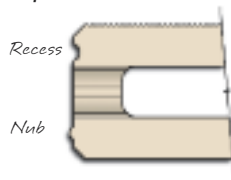

Figure 2: Post Block Template with Pile Steel Placement
The pile layout jig (Figure 1) is used after the piles are poured, but not quite hardened to set the location of the post blocks on the piles and ensure the exact relative spacing between each AB Fence post. This will also indicate precisely where the rebar needs to be placed in the piles (Figure 2). The optional rebar alignment plate can be used for increased accuracy of bar placement, see Figure 3.
Using 2 x 6's construct two post block templates as shown in Figure 2. After measuring the exact panel length, nub to nub, cut a 2 x 6 to this length plus 0.5 in (13 mm) extra to account for the required space between panel block and post pocket. This 2 x 6 is the Pile Layout Spacer shown in Figure 1 and is used between the post block templates.
- Mark the placement of the rebar in the pile, using the Post Block Template similar to *Figure 2* during the pile pour. For more information see the construction detail on page 25.
- Place the vertical steel reinforcement bars (rebar) using the placement template shown in *Figure 2*; or for greater accuracy use the optional rebar alignment jig shown in *Figure 3*. Pay close attention to make sure that the center of the template is at the center of the AB Fence post and square to the adjacent AB Fence post. This can be done using offsets and string lines.